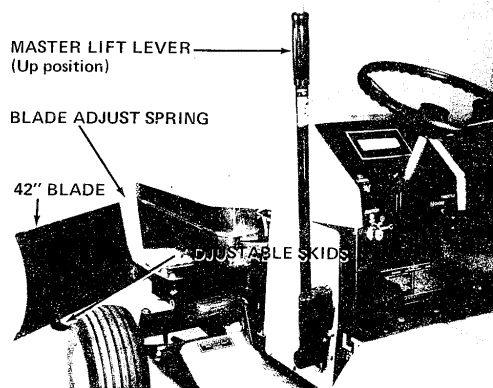

FIGURE 15
3. To lift blade and lock for transport pull master lift lever back and lock in notch. See Figure 15.
6. Skid shoes may be adjusted by loosening two nuts and re-positioning to desired height. See Figure 15.